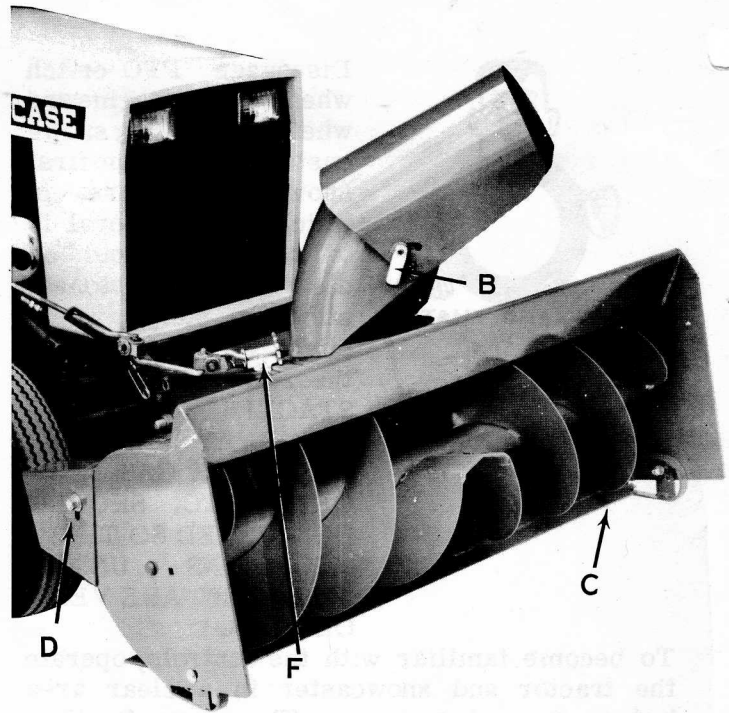

Figure 3. Snowcaster Adjustments
2. Deflector - The deflector has a slotted hole on each side for adjustment. To change the angle of the deflector, loosen the two locking levers. Reference "B", Figure 3. By angling the deflector upward the snow will be cast higher and further from the tractor. When angled downward the deflector will direct the snow closer to the ground and it will be cast a shorter distance. Tighten the locking levers when the deflector is adjusted at the desired angle.
3. Skid Shoes - See Reference "C", Figure 3. Several mounting hole options are available to obtain the desired clearance between the base of the auger housing and the surface of the area to be cleared. When operating on a smooth surface such as cement or asphalt the skid shoes can be attached at the lower holes. If operating on a rough surface such as gravel or earth the skid shoes should be set at the upper holes to prevent foreign material from entering and possibly damaging the snowcaster.
4. Auger Drive Chain - The chain slack at the lower section should be held to between 3/8" and 1/2" under normal finger pressure midway between the sprockets. Adjust the guide Reference "D", Figure 3,
Oil the discharge elbow control sprocket and the sprocket support sleeve, Reference "F", Figure 3 daily to keep the crank turning freely.